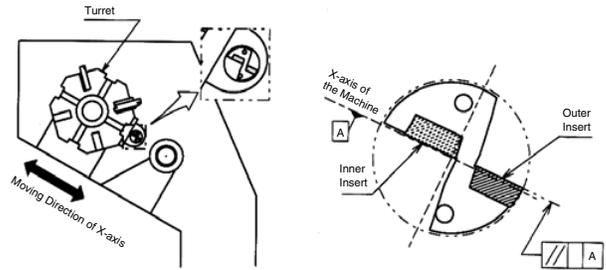
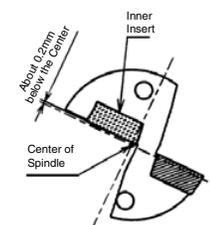

Fig.1 Installation to the Turning Lathe
Fig. 5 Front View of the Drill
- It is recommended to set the outer insert as shown in Fig.1 with the outer insert facing the operator. (It is also possible to use it by setting 180° reverse position.)
When installing inner insert as shown in Fig. 1, it will be set around 0.2mm (.008") below the Center line of the Spindle. (Fig. 5)